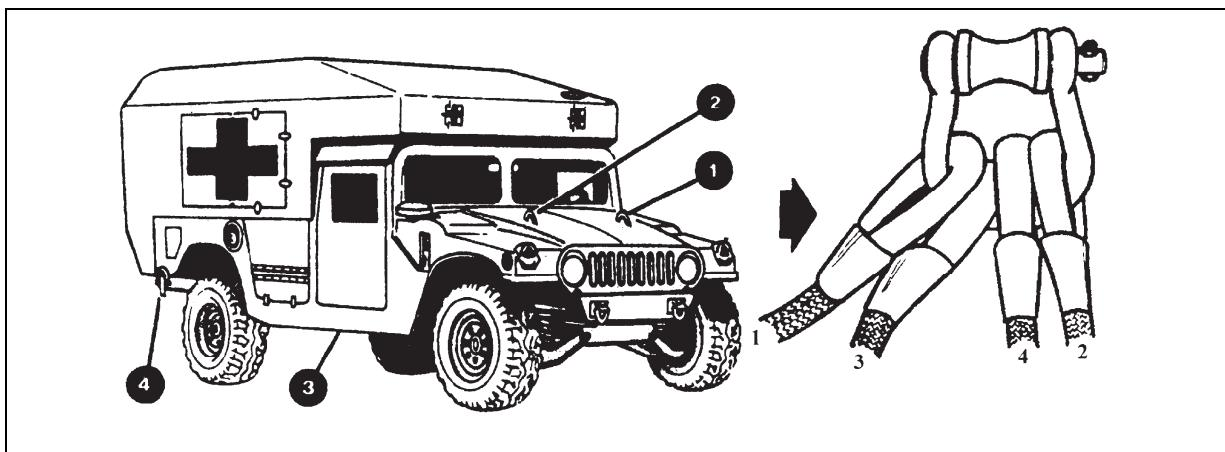

Figure 1-1. Sling Leg Lifting Point Designation
- **Positioning and Attaching the Sling Set.** Position the sling set near the load. The sling legs for a typical load with four lifting points are routed as shown in Figure 1-1.